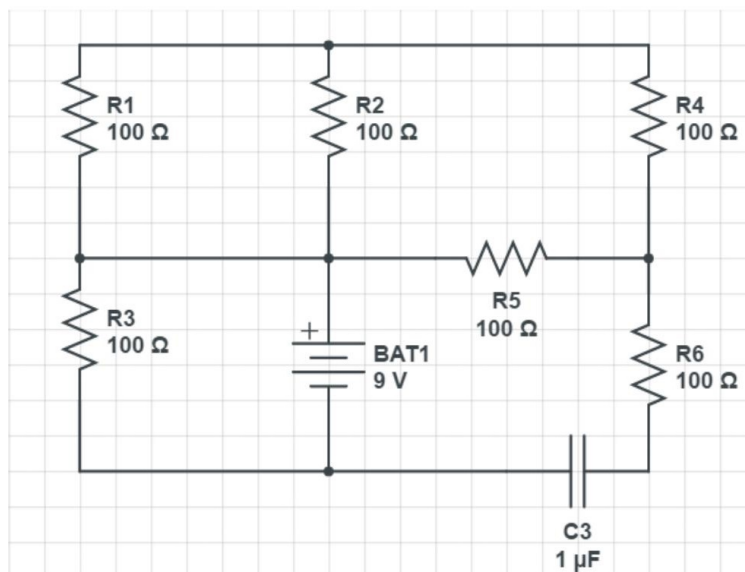

Figure 2.6: Effect of a fully charged capacitor on the circuit.
13. Answer the following in the results section of your log book. Your draft calculations can be shown in the “General Notes” section of the log book. In the circuit of Fig. 2.6, how will the fully charged capacitor affect the current and potential in R6? Answer this in your log book.